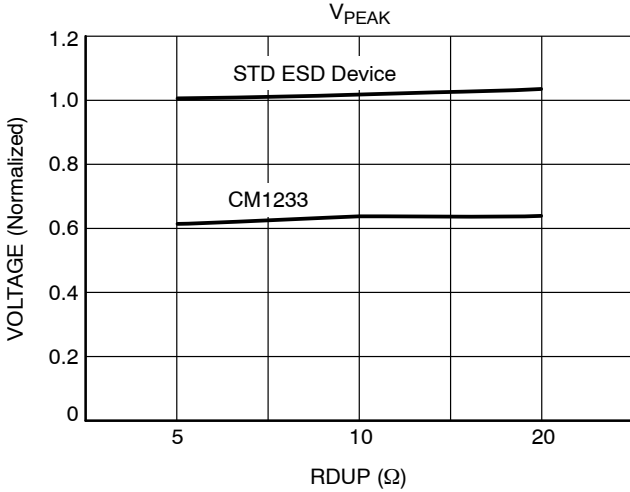
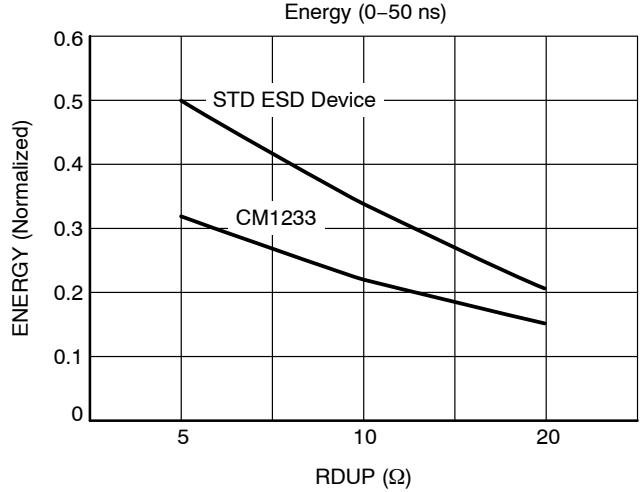
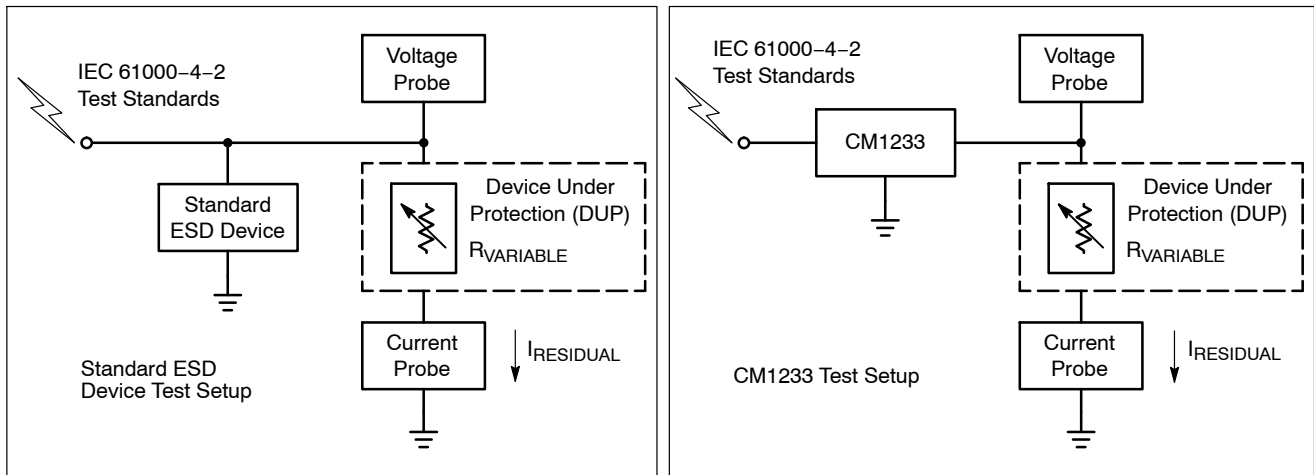

Figure 5. VPeak (8 KV IEC-61000 4-2 ESD Contact Strike) and VClamp vs. Loading (RDUP)*
Figure 6. Energy Dissipated in DUP vs. RDUP*
Figure 7. Test Setups: Standard Device (Left) and CM1233 (Right)
Figure 5 shows that the CM1233 (*PicoGuard XS* ESD protector) lowers the peak voltage and clamping voltage by 45% across a wide range of loading conditions in comparison to a standard ESD protection device. Figure 6 also indicates that the DUP/ASIC protected by the CM1233 dissipates less energy than a standard ESD protection device. This data was derived using the test setups shown in Figure 7.
*RDUP is the emulated Dynamic Resistance (load) of the Device Under Protection (DUP). See Figure 7.